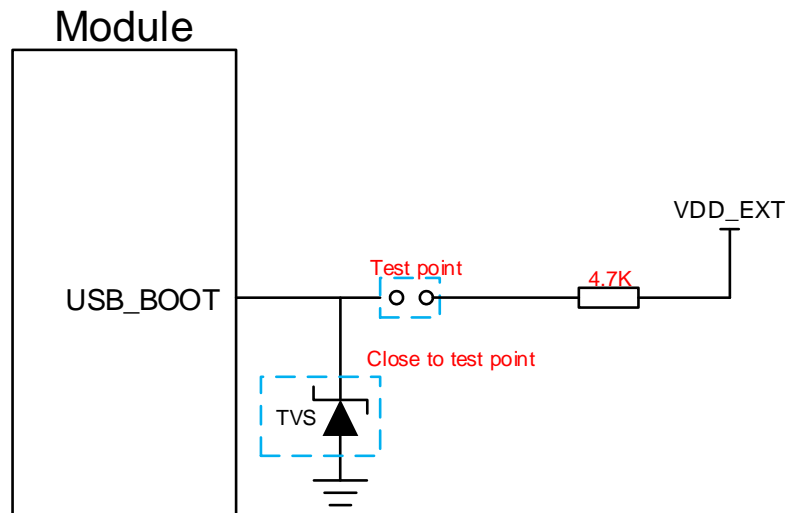

Figure 18: Reference Circuit of USB_BOOT Interface
2. When using MCU to control module to enter the emergency download mode, please follow the above timing sequence. It is not recommended to pull up FORCE_USB_BOOT to 1.8 V before powering up VBAT. Directly connect the test points as shown in **Figure 18** can manually force the module into download mode.
4.3. (U)SIM Interface